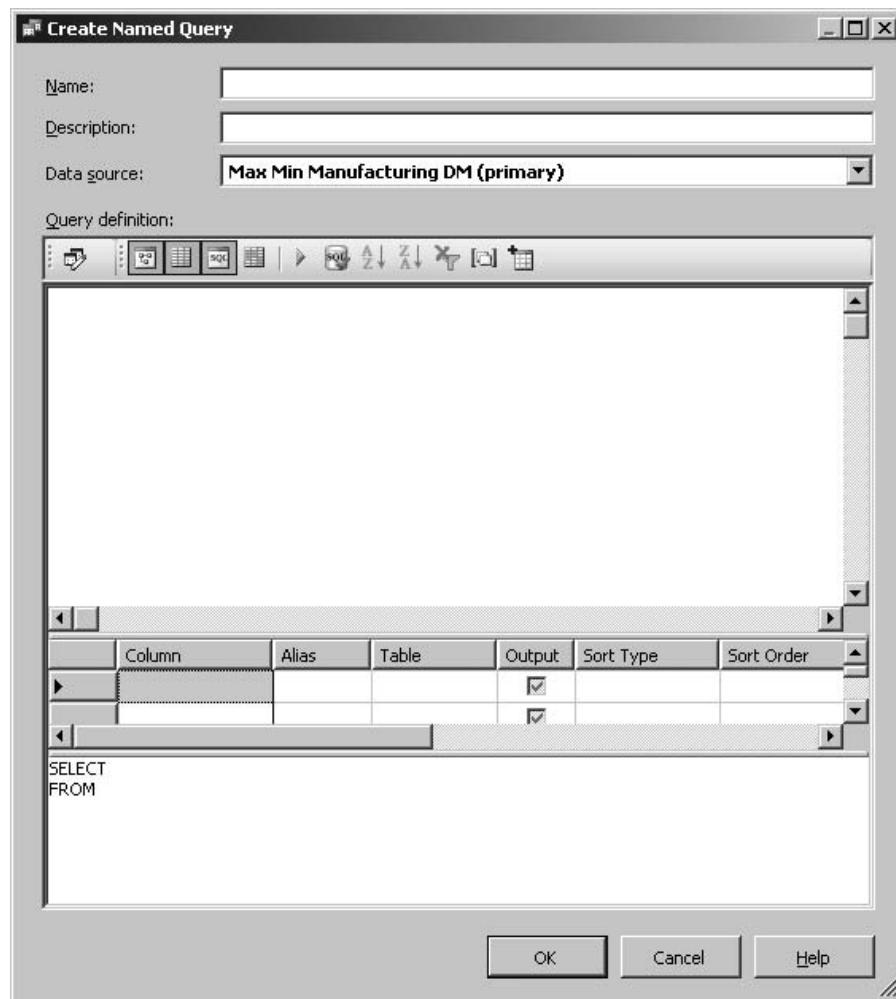

Figure 10-30 Creating a new named query
4. Right-click any place there isn't a table in the data source diagram area. Select New Named Query from the context menu. The Create Named Query dialog box appears, as shown in Figure 10-30.